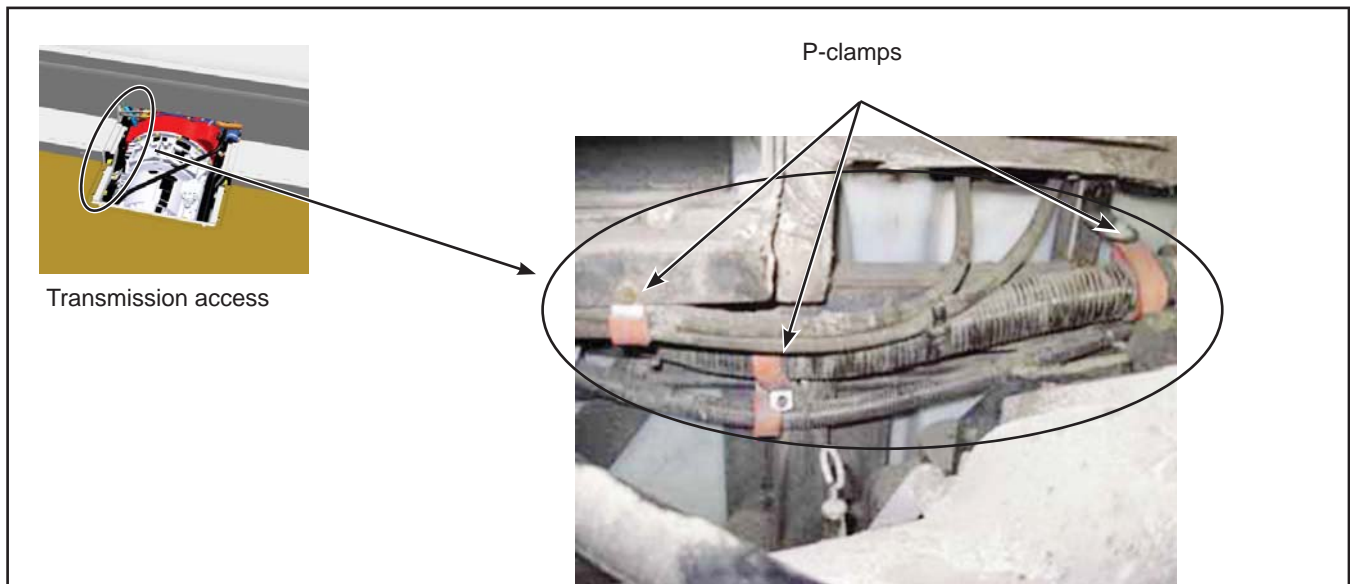

Figure 5 - Electrical Harness
- 1.8. Remove the P-clamps and move the electrical harness aside. See Figure 5. This step is required to access the engine mounts.